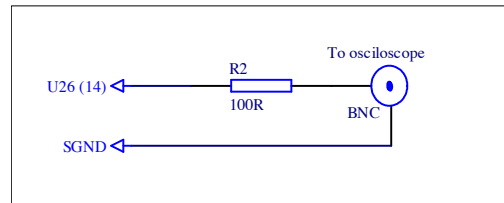

Fig.7b. Measure current motor on PC
- Fig 7b : 0,2V/div (give 1,6A/div) or 0,1V/div (give 0,8A/div) 1ms/ div, offset voltage = 1,58V;